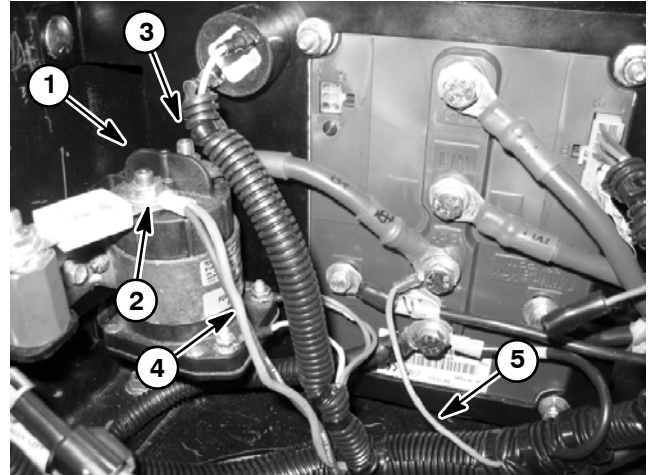

Figure 36
The wiring harness for the Workman includes three (3) fusible links for circuit protection (Fig. 36).